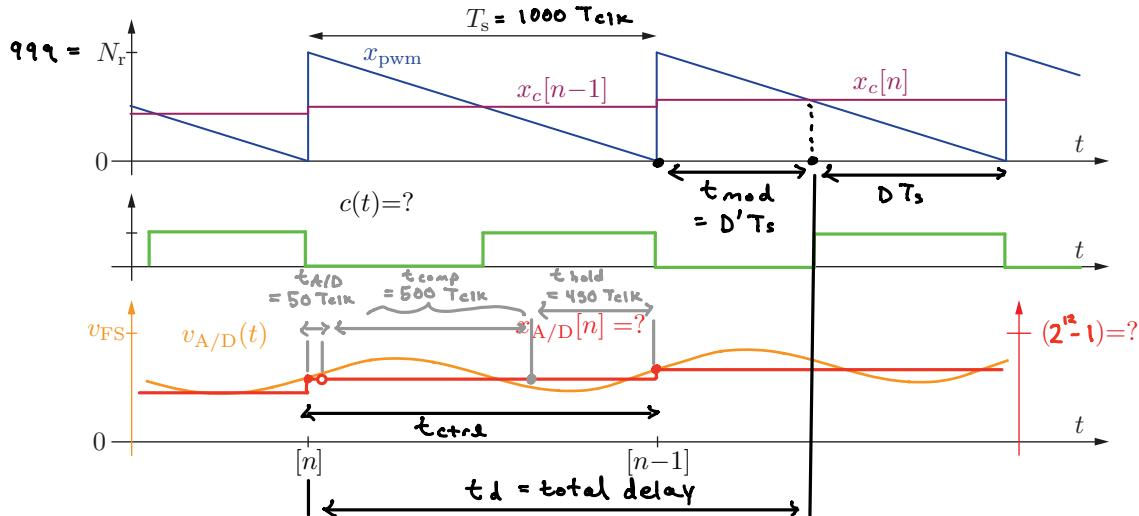

Figure 2: Digital system waveforms for Problem 3.
- Sketch the binary PWM output  $c(t)$  and sampled ADC value  $x_{A/D}$  waveforms onto Figure 2. Overlay  $x_{A/D}$  on the same plot as  $v_{A/D}$ .
- Add the following items onto Figure 2: Label the maximum feasible integer value of  $x_{A/D}$  vertical axis, specify the DPWM counter maximum  $N_r$ , label the duty  $D$ , and the delays  $T_{\text{ctrl}}$  and  $T_{\text{mod}}$ . Also draw the delays  $T_{A/D}$ ,  $T_{\text{comp}}$ , and  $T_{\text{hold}}$  within  $T_{\text{ctrl}}$  and try to draw them to scale.